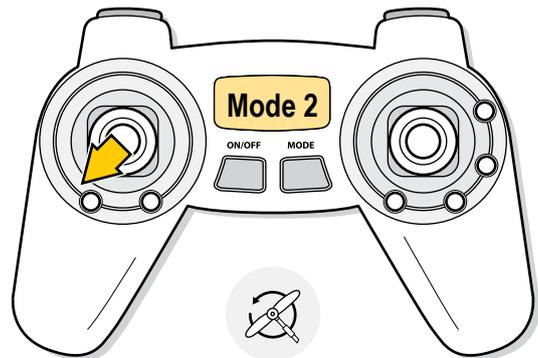

Fig. 27
1. Start the motors by carefully moving the THROTTLE/RUDDER lever diagonally into the left bottom corner (see [Fig. 27]). Hold this position until the motors turn on.